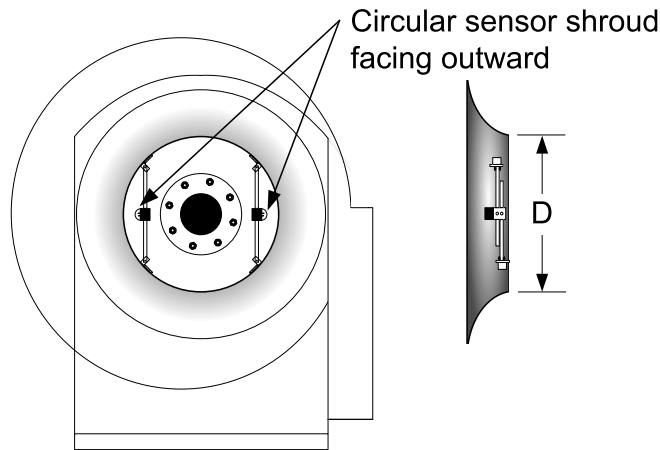

Figure 2. Centrifugal Fan Throat Mount
Locate the sensor probes in the narrowest portion of the inlet cone as indicated in Figure 2 for the most reliable performance. Table 1 lists the standard Throat Mount sizes available.
2. Measure the diameter ("D") of the inlet of the fan where the sensor assemblies will be installed as shown in Figures 2 and 3. Refer to Table 1 to verify that the proper sensors and rod 4 packs have been received.